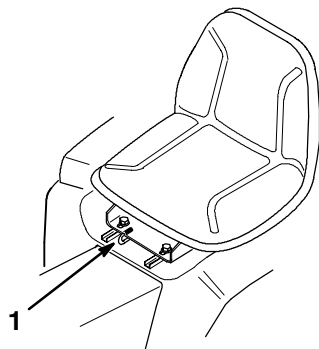

Figure 23
1. Move the adjustment lever sideways to unlock seat (Fig. 23).